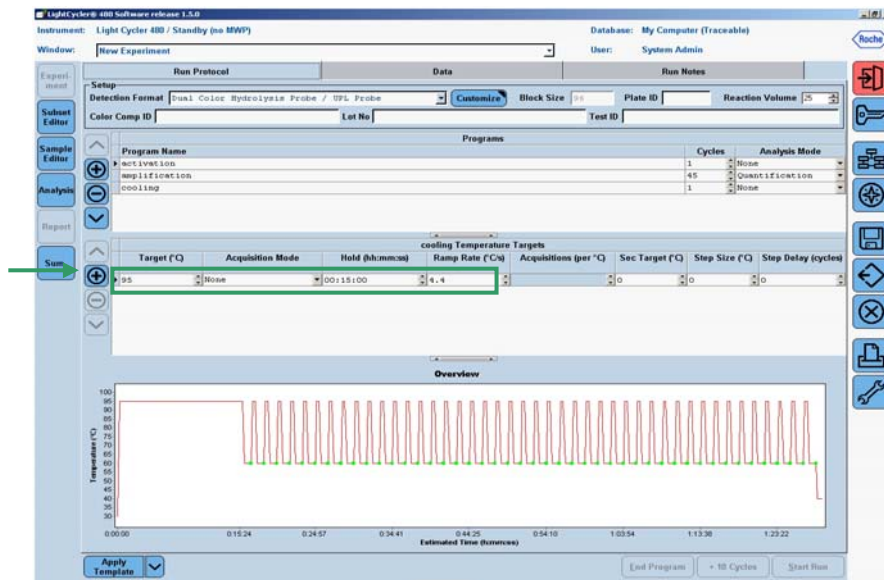

FIG.6
- Set **00:15:00** in the **HOLD** column (Fig.6).